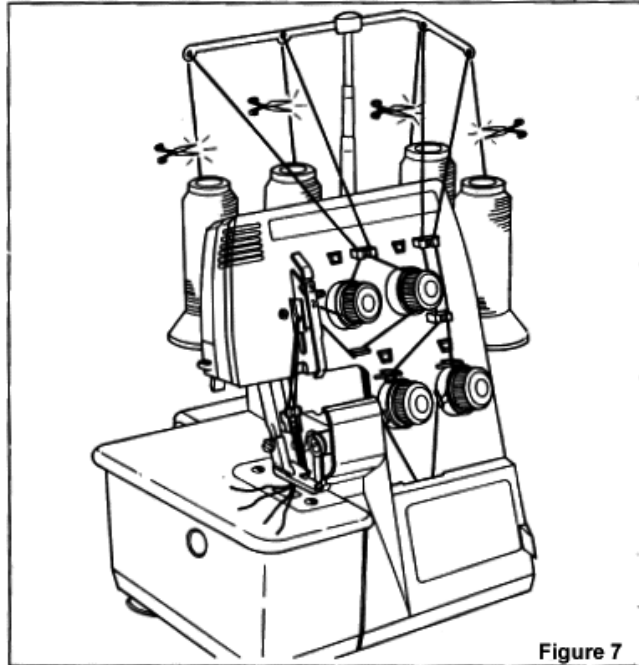

Figure 7
2. Change threads and make a square knot to tie each old thread to its corresponding new thread (Figure 7).